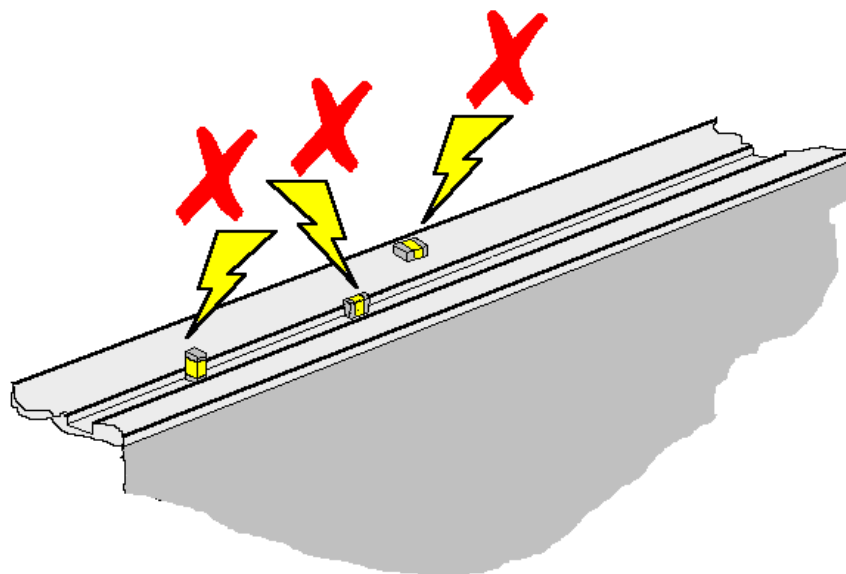

FIGURE 5.2.1.5d
- Check if the transport area is really empty. If necessary, clean with a soft camel hair brush. Place the top cover (for upper feeder) or upper feeder (for lower feeder) back onto the twin bulk feeder. This is done as shown in figure 5.2.1.5a.
**NOTE:** Figure 5.2.1.5d. shows the situations that should be prevented.